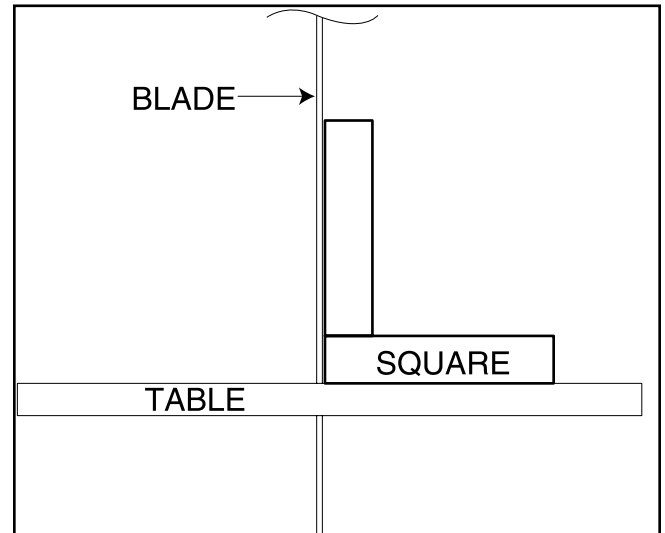

Figure 29. Squaring table to blade.
2. Raise the upper blade guide assembly and place a 6" adjustable square or try-square on the table against the blade. **See Figure 29.** Adjust the positive stop adjusting bolt so that the table is positioned at a 90° angle to the blade.